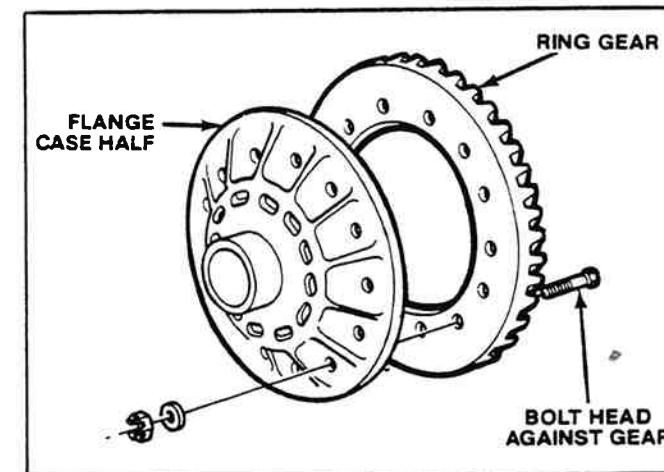

Figure 2-62. Installing Ring Gear Mounting Bolts.
5. Install the bolts, nuts and washers that hold the ring gear to the flange case half. Install the bolts from the gear side of the assembly. The bolt heads must be against the ring gear (Figure 2-62).